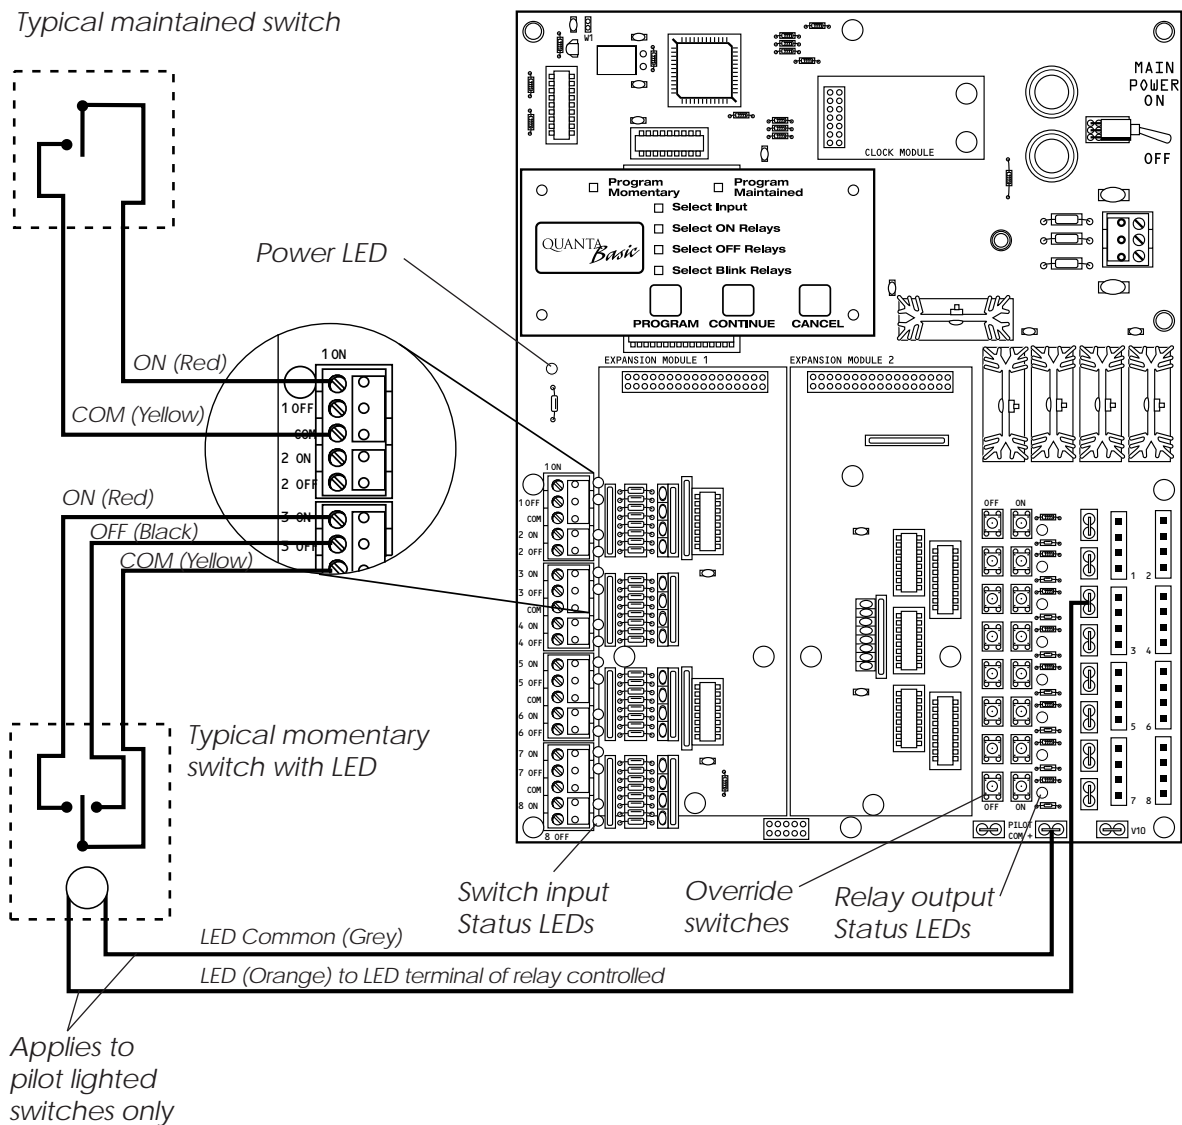

Figure 2.2 – Wire Class 2 Switch Circuits
2.3.3 Wire Switch Inputs – Wire the Class 2 Switch Circuits. (See Figure 2.2.)
Switch each relay ON and OFF pushing the override switches located on the CPU I/O and the other I/O boards. There are separate ON and OFF switches for each lighting relay. (See Figure 2.2.) Verify that the relay status LED goes ON and OFF and that the relay itself changes state. Verify that the relay controls the proper circuit.